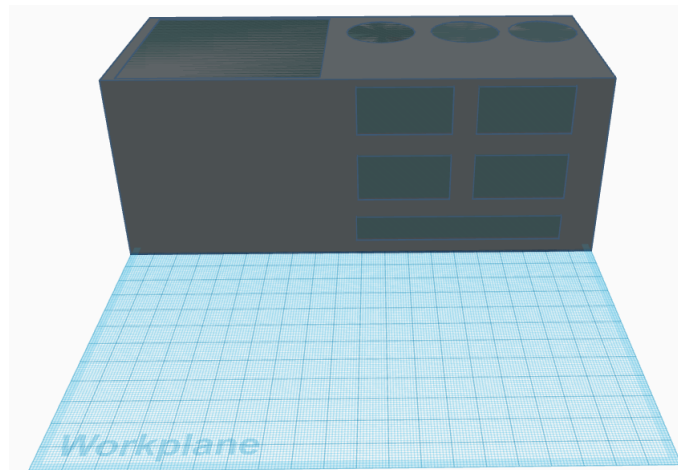

Figure 15.6: Tinkercad Final Setup
24. Now that you now how to create and shape objects, create something as shown in Figure 15.6 by yourself.